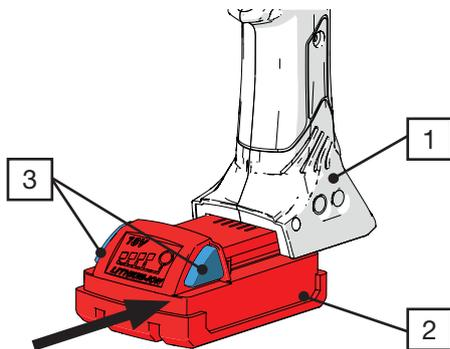

Fig. 11: Inserting the battery
- ▶ Slide the battery (Fig. 11/2) into the CP 10 / CP 20 / CC 20 clamping pincers (Fig. 11/1) until it engages securely. The battery is inserted when the buttons (Fig. 11/3) move and a clicking sound can be heard.